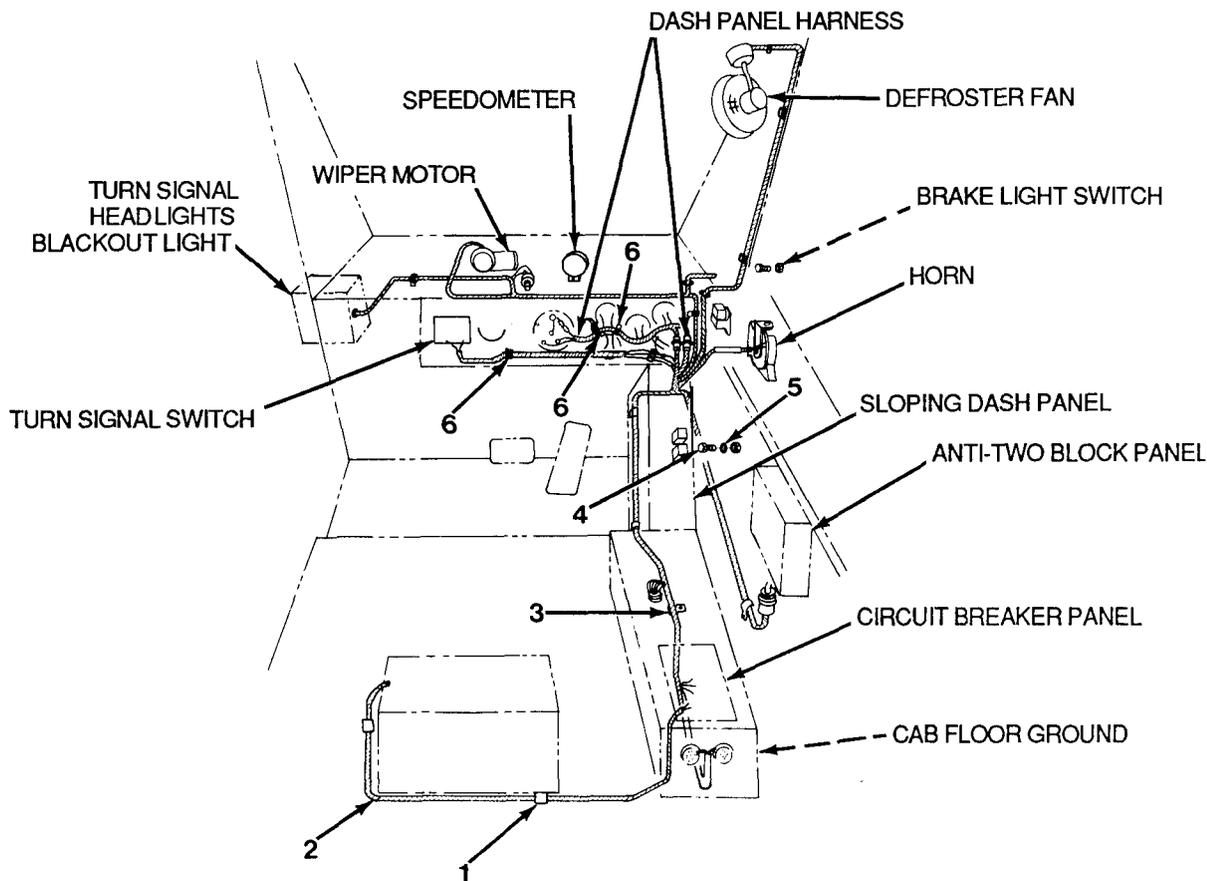

Figure 10-1
7. Remove two clamps (1) and wire (2, Figure 10-1) from heater and circuit breaker.